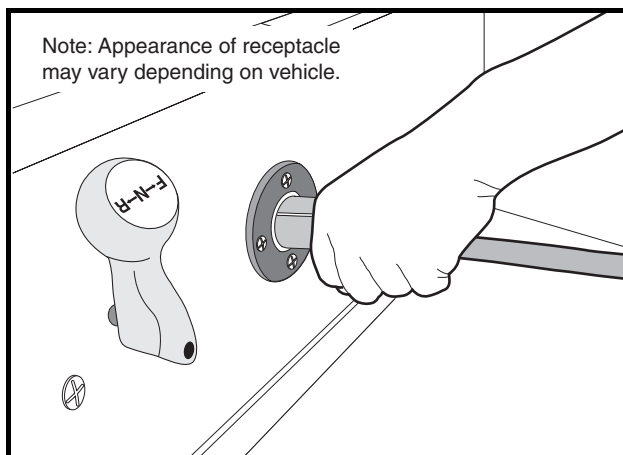
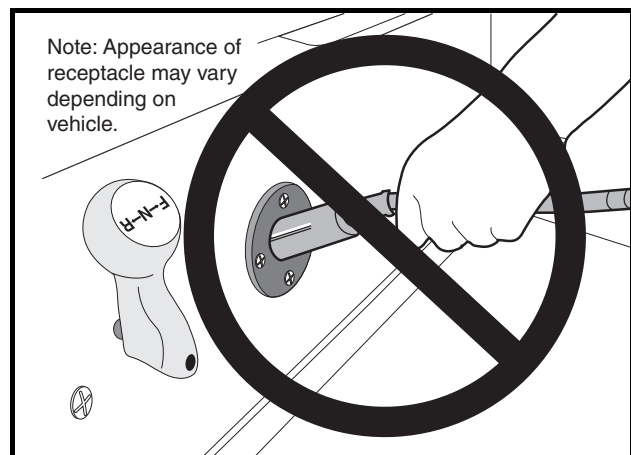

Figure 9 Charger Receptacle
Figure 10 Incorrect Charger Cord Removal
- **Do not rock or bend the plug. To connect the charger plug to the vehicle receptacle, grasp the plug handle and push the plug straight into the receptacle (Figure 9).**
- **Do not pull on the DC cord (Figure 10). Do not twist, rock or bend the plug. To disconnect the charger plug from the vehicle receptacle, grasp the plug by the handle and pull the plug straight out of the receptacle.**
2. Connect the charger DC plug to the vehicle charger receptacle located on the seat support panel (Figure 9). The charger will activate automatically within 2 to 15 seconds after the DC plug is connected. **See following WARNING.**
When inserting the DC plug into the vehicle receptacle, align the raised guide on the plug with the guide slot in the receptacle and slowly push the plug straight in (**Figure 9**). To disconnect the plug from the vehicle, firmly grasp the plug, not the cord (**Figure 10**), and slowly pull plug straight out. **See following WARNING and CAUTION.**
- Do not rock or bend the plug. To connect the charger plug to the vehicle receptacle, grasp the plug handle and push the plug straight into the receptacle (Figure 9).